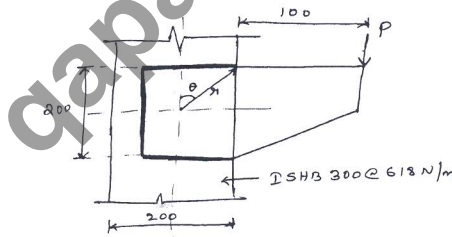

Fig. Q3(b)
b. A bracket plate is used to transfer the reaction of a beam to a column flange as shown in Fig. Q3(b). A fillet weld of 6 mm is used to connect the plate and column flange. Find the maximum load that can be taken by the bracket connection at an eccentricity of 100 mm. (14 Marks)